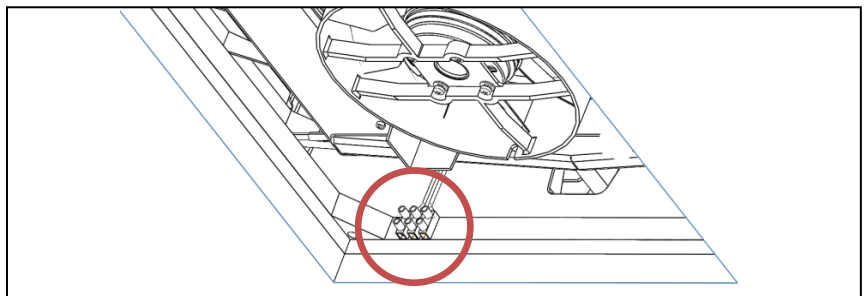
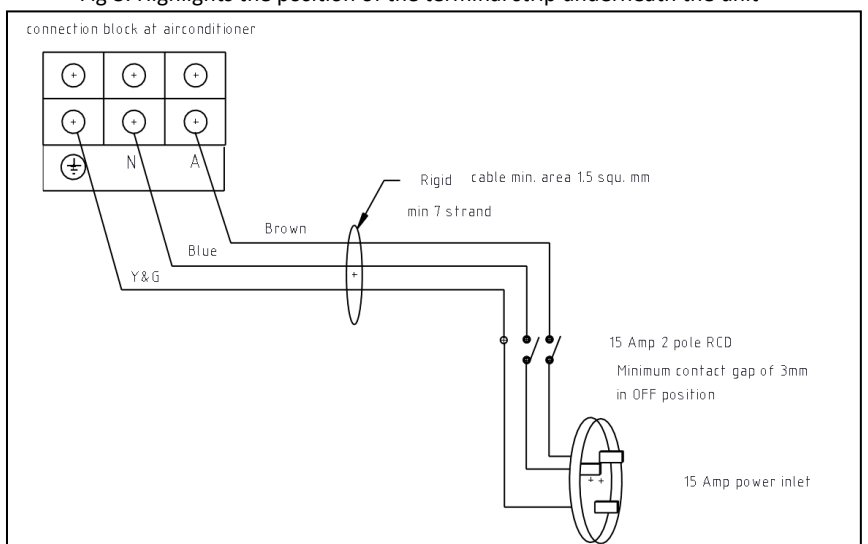

Fig 8: Highlights the position of the terminal strip underneath the unit
Fig 9: Shows the positioning of the electrical wires into the terminal strip
- Refer to wiring diagram (Fig 9). Refer Fig 8 for position of terminal block
- Connect electrical supply to terminal strip. Note position of active, neutral and ground wires (Fig 9)